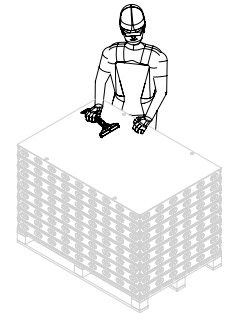

Fig. B1.10
4. Move, clean and transfer panel unit to the next place of operation. (Fig. B1.10)